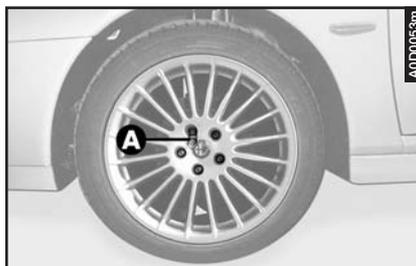

fig. 19
– Remove the centering pin (**A-fig. 19**) and screw the last fastening bolt.